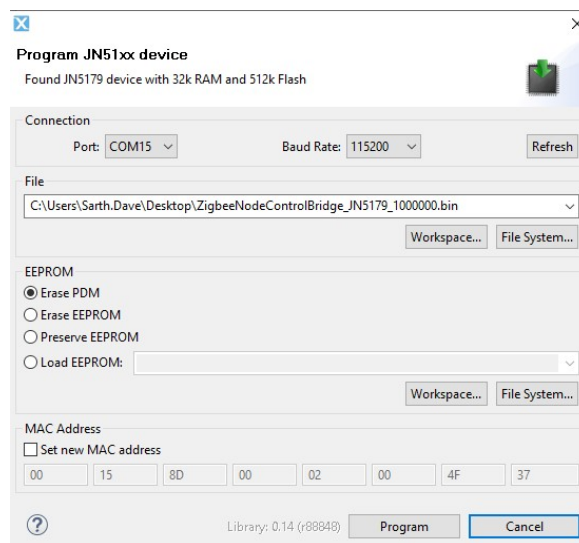

Figure 2-14: Programming Dialog Box
3. Click on JN51xx in menu bar and click “program device”. A program window will open. This is shown in figure 2-14